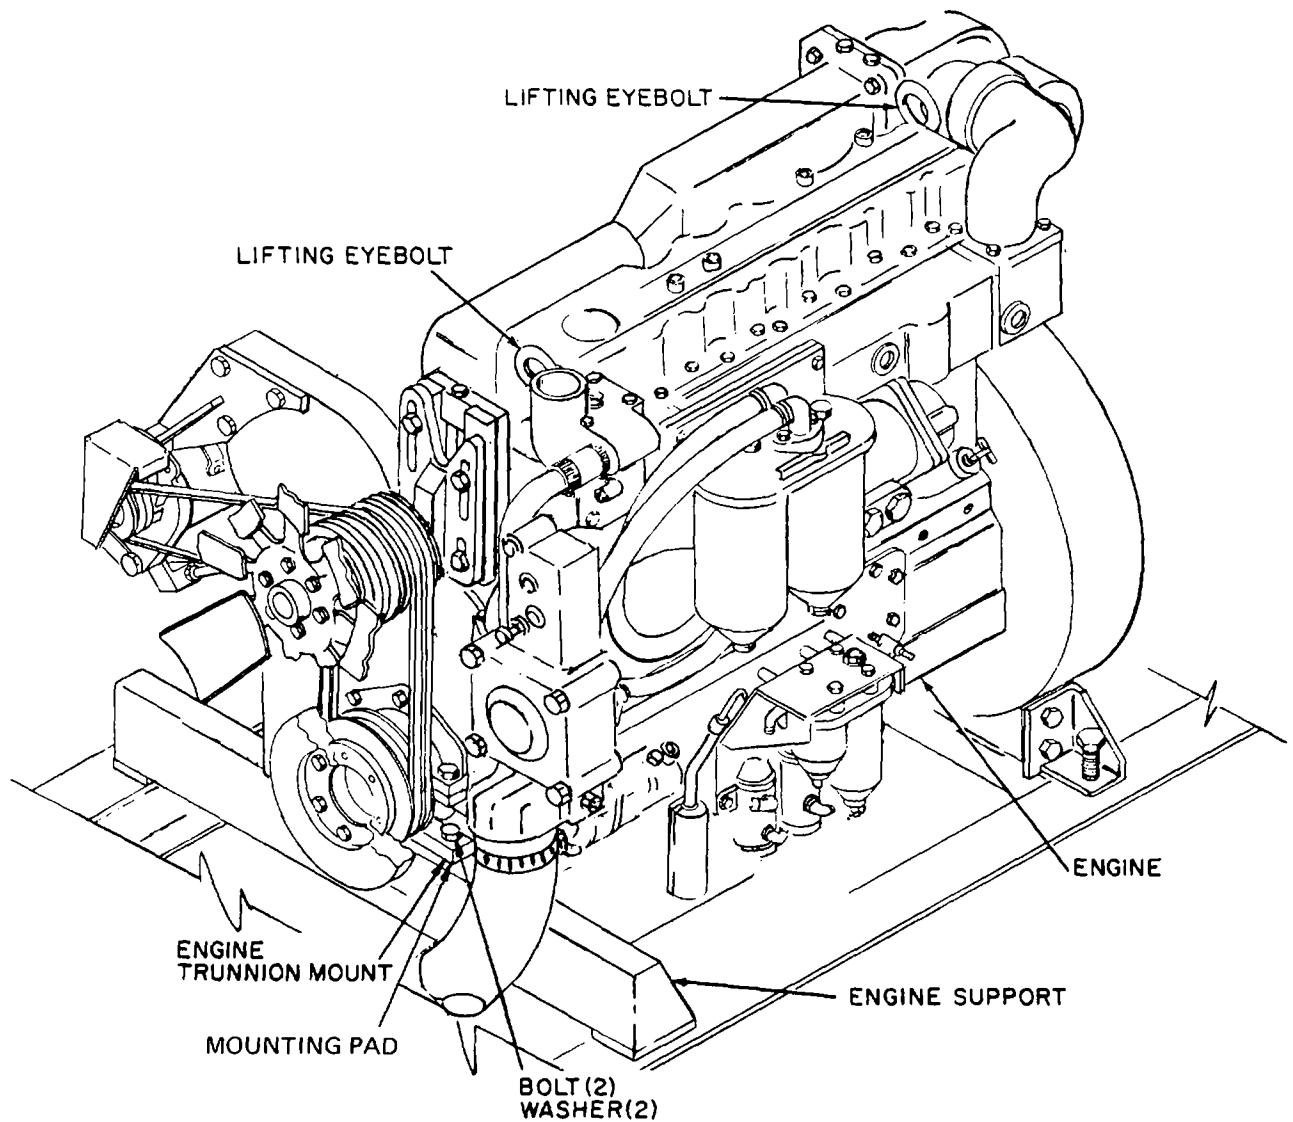

Figure 2-4. Engine Removal and Installation
u. Straighten corners of locking plates (6) and remove screws (5) and locking plates. Rotate engine crankshaft using a barring tool on crankshaft pulley bolt. Turn engine clockwise (standing in front of engine looking toward generator) as required for access to screws (5). Hold barring tool stationary to permit loosening screws.
v. Remove nuts (7) and washers (8) and permit generator mounting bolts to rest on fuel tank.
w. Connect a overhead lifting device (with a 5-ton (4.5 t) capacity) to both engine lifting eyebolts (figure 2-4). Remove slack from lifting device.
b. Connect a lifting device (with a 5-ton (4.5 t) capacity) to both engine lifting eyebolts (figure 2-4).
g. Raise lifting device so that block can be removed from beneath generator. Remove block and slowly lower engine in place so that engine support bolt holes (figure 2-4) and trunnion mount holes are in alignment. Secure trunnion mount to engine support with bolts and washers. Make sure generator mounting bolts are in alignment with generator mount holes and tighten engine mount bolts to 200 foot-pounds (271 Newton-meters) torque.